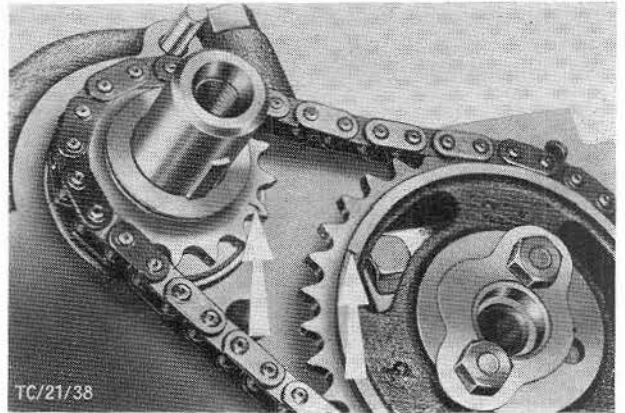

Fig. 47. Sprocket markings.
42. Fit camshaft gear together with timing chain, ensuring markings on gears align, Fig. 47. Torque bolts as specified in Technical Data and lock over tab.